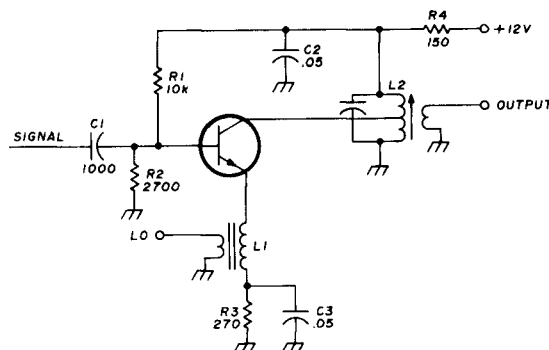

fig. 10. Rf mixer circuit using a bipolar transistor. There are many hidden resistance paths in this circuit which can be confusing if you're not aware of them.
2. Transistor leakage can cause the same sort of measuring problems as diodes because both the base-collector and base-emitter junctions are, in essence, diodes so a transistor junction that is forward biased by the ohmmeter battery looks like a low-resistance path. Consider the circuit of fig. 10 where an npn transistor is used in a typical rf mixer circuit. Suppose you connect your ohmmeter across resistor R2 to measure it. Instead of the expected 2700 ohms the meter reads about 50 ohms and you figure R2 has changed value. If you reverse the meter leads, however, you measure about 2100 ohms.